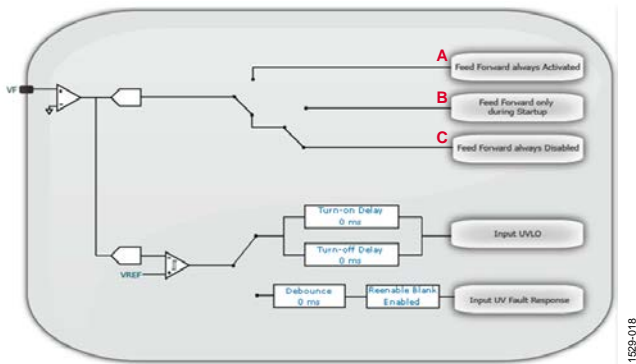
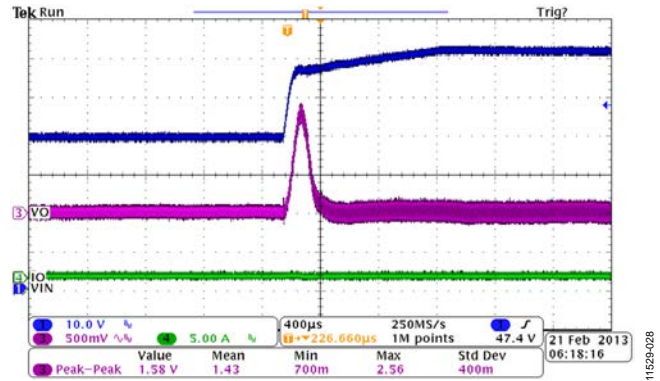
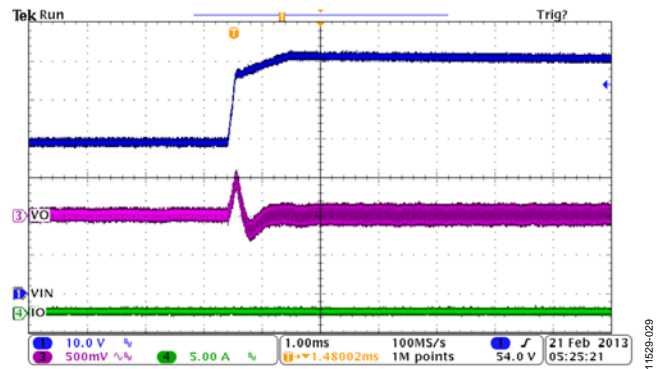

Figure 18. Feed Forward Selection Option
Figure 28. Input Voltage Transient Response with Feed Forward Disabled
Figure 29. Input Voltage Transient Response with Feed Forward Enabled
2. Select the type of prebias start up as shown in Figure 18:
By proper selection of the input voltage feed forward options as shown in Figure 18, the input voltage feed forward can be evaluated in different ways. Figure 28 gives a result of the input voltage transient with the feed forward being disabled (Option C—**Feed Forward always Disabled** in Figure 18). While Figure 29 gives a result of the input voltage transient with the input voltage feed forward being enabled (Option A—**Feed Forward always Activated** in Figure 18).
- Select the input voltage signal to trigger the VIN\_LOW flag or the VIN\_UV\_FAULT flag in the feed forward selection window shown in Figure 18.